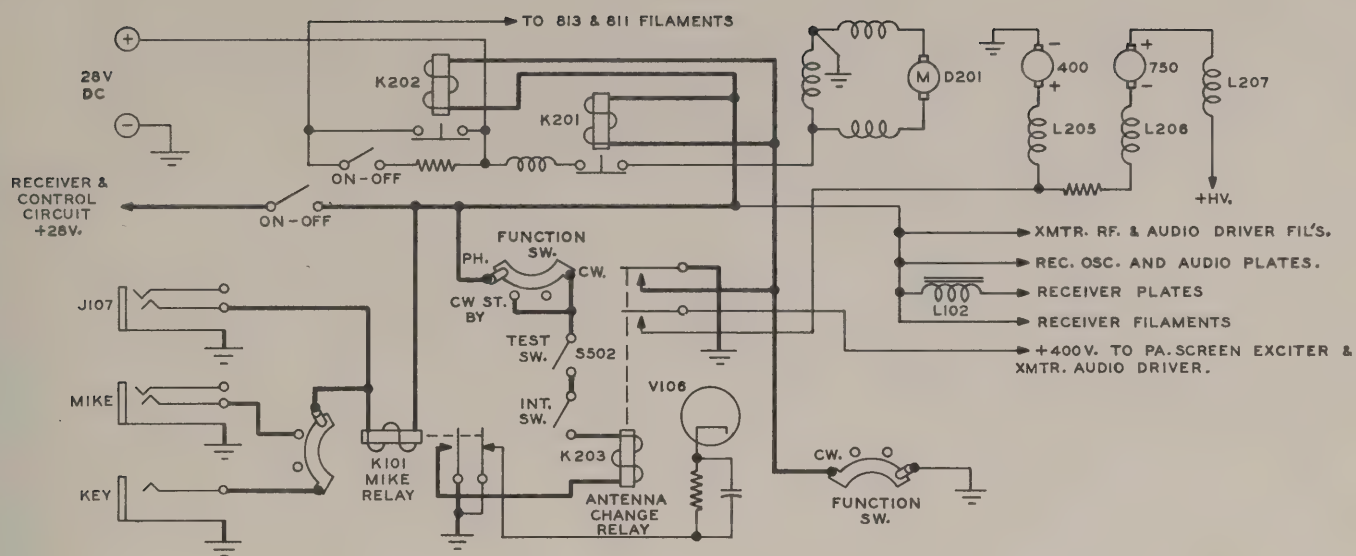

Figure 2-3 Primary Power and Control Circuits
for the selected channel. Referring to Fig. 2-3, the Autotune mechanism consists of a d-c motor, B502, a circuit-seeking switch, S503, a relay K501, a limit switch, S504, an Autotune control head, two friction clutches a limit switch cam, and a ratchet drive mechanism. Relay K501 performs three separate functions, operating a group of electrical contacts, controlling the engagement of the ratchet drive mechanism and controlling a stop arm which controls the rotation of the limit switch cam.
The setting of the network switch, S501, is performed by the circuit-seeking function of the Autotune. The rotor of the circuit-seeking switch S503, is driven by the motor through the relay-controlled ratchet mechanism. Referring to Fig. 2-3, 28 volts is applied to relay K501 through the contacts of limit switch S504. When the remote control switch is set to a new position, the negative terminal of the relay coil is grounded. The relay, being actuated, operates its set of contacts, sets the limit switch cam stop arm and causes the ratchet drive to be engaged. One set of contacts on K501 starts motor B502; the other set acts as a holding contact so that when limit switch S504 is released, the relay remains actuated until its grounding circuit is broken.
c. POWER CONTROL CIRCUITS. - See figure 2-3. This equipment has been designed to operate from a 28.0 volt direct current power source. The filaments of the tubes are connected in series parallel across the power source. All power control is done remotely. Applicable circuits for power control switches are shown in figure 2-3. Heater power is applied to the receiver tubes and to the oscillator and speech amplifier tubes of the transmitter when the ON-OFF switch is placed in the ON position. The receiver tubes obtain plate voltage from the 28.0 v power source, also, when the ON-OFF switch is in the ON position. The dynamotor solenoid is energized by operation of the antenna relay on phone